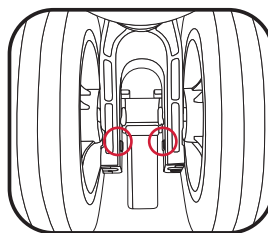

Fig 3
3. There are two small metal dials on either side of the housing that are used to realign the wheel (fig. 3)